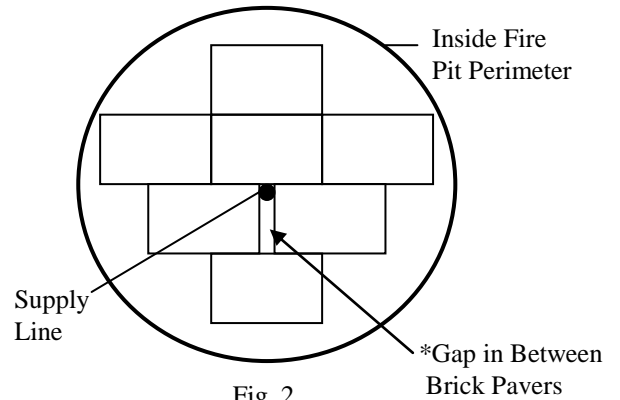

Fig. 2
- b. Follow brick pattern in Fig. 2.